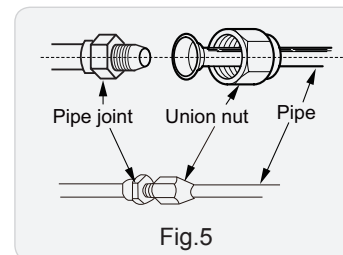
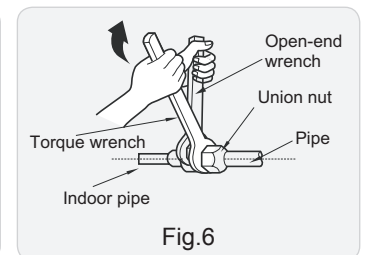

Fig.5
Fig.6
(1) Aim the pipe joint at the corresponding bellmouth. (As show in Fig.5)
(2) Pretightening the union nut with hand.
(3) Adjust the torque force by referring to the following sheet. Place the open-end wrench on the pipe joint and place the torque wrench on the union nut. Tighten the union nut with torque wrench. (As show in Fig.6)